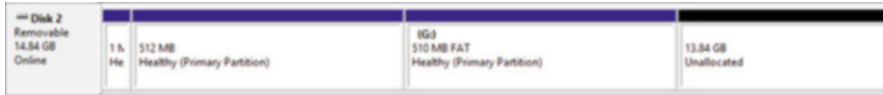

Fig. 11.19: The microSD card will have three partitions if it has been previously used for the DE10-Nano board
Step 1: **Create a single partition on the microSD card.** In the Windows 10 search bar, type “disk management”, and Windows 10 will suggest *Create and format hard disk partitions*. Click on that suggestion. The Disk Management utility will pop up, and there will be a disk listed (Disk 3 in this example) that is 16 GB (14.84 GB in this example). Here is what the disk utility shows for the microSD card that shows the three partitions (Fig. 11.19).